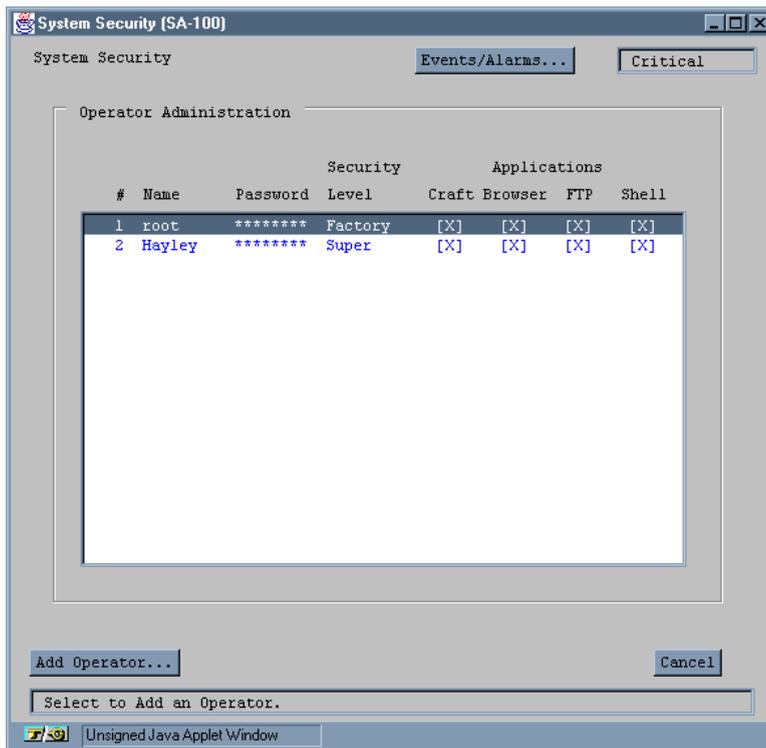

Figure 3-2. System Security Window
1. Choose the System Security button from the System Administration window. The System Security window appears (see Figure 3-2). The System Security window lists the authorized operators, their security level and which applications they have access to. Figure 3-2, for example, lists the name of an operator (Hayley) who has been added to the system. For security, eight asterisks appear in the Password field instead of the actual password. Hayley has a security level of “Super” and access to all the SA 100 management applications.